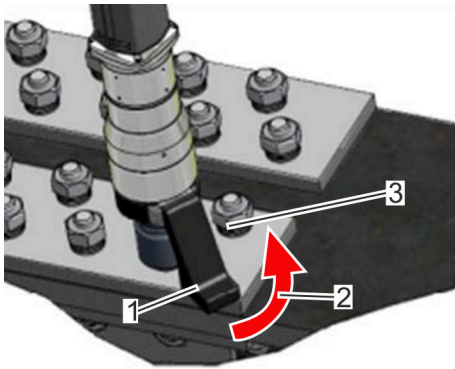

Fig. 20: Starting rotation angle
5. → Ensure that the reaction arm (Fig. 20/1) is braced against a bracing surface (Fig. 20/3) on its side facing the nutrunner's desired direction of rotation. Ensure that there is full contact.
On pre-tightened bolted connections, torque mode will always exceed the set torque if the starting rotation angle between reaction arm (Fig. 20/1) and bracing position (Fig. 20/3) is too small.
Note the starting rotation angle (Fig. 20/2) as per the chart.